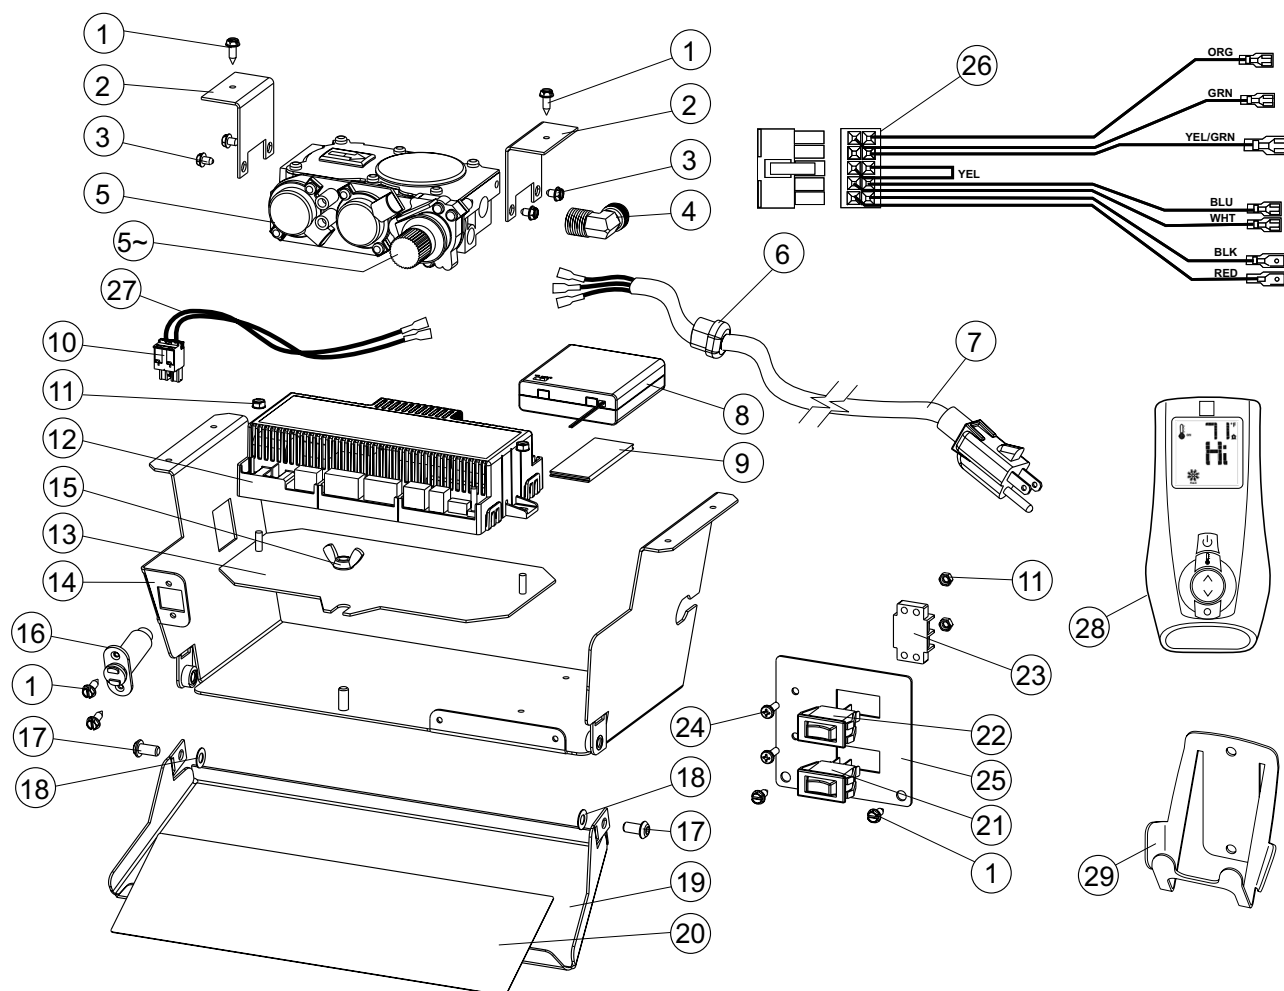

Figure 73.
2. Access the battery box from behind the right side of the control compartment. See fig. 73. Disengage it from the hook & loop tape.